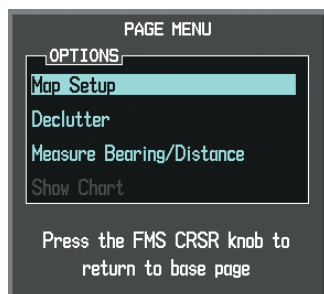

Figure 6-105 Navigation Map Page Menu
- 3) With Map Setup highlighted, press the **ENT** Key (Figure 6-105).